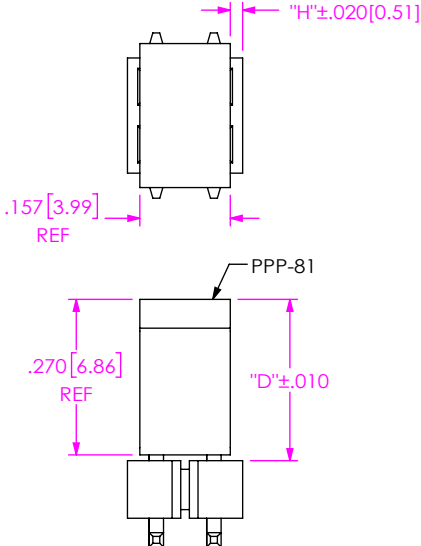

FIG 9
- (POS -02, USE PPP-81, SEE FIG 9, SHT 2)